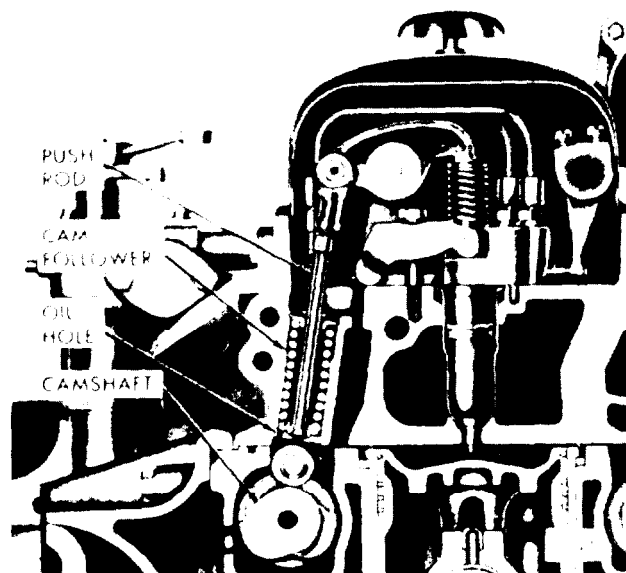

Figure 11B-46. Installation of Cam Followers
1. Note the oil hole in the bottom of the cam follower. With the oil hole directed away from the exhaust (Figure 11B-46), slide the cam follower in position in the cylinder head.
2. Assemble the serrated lower spring seat (Figure 11B-42 on page 11B-29), spring and upper spring seat on the push rod.
**CYLINDER HEAD REMOVED FROM ENGINE.** If the cylinder head has been removed from the engine, proceed as follows (see Figure 11B-45):